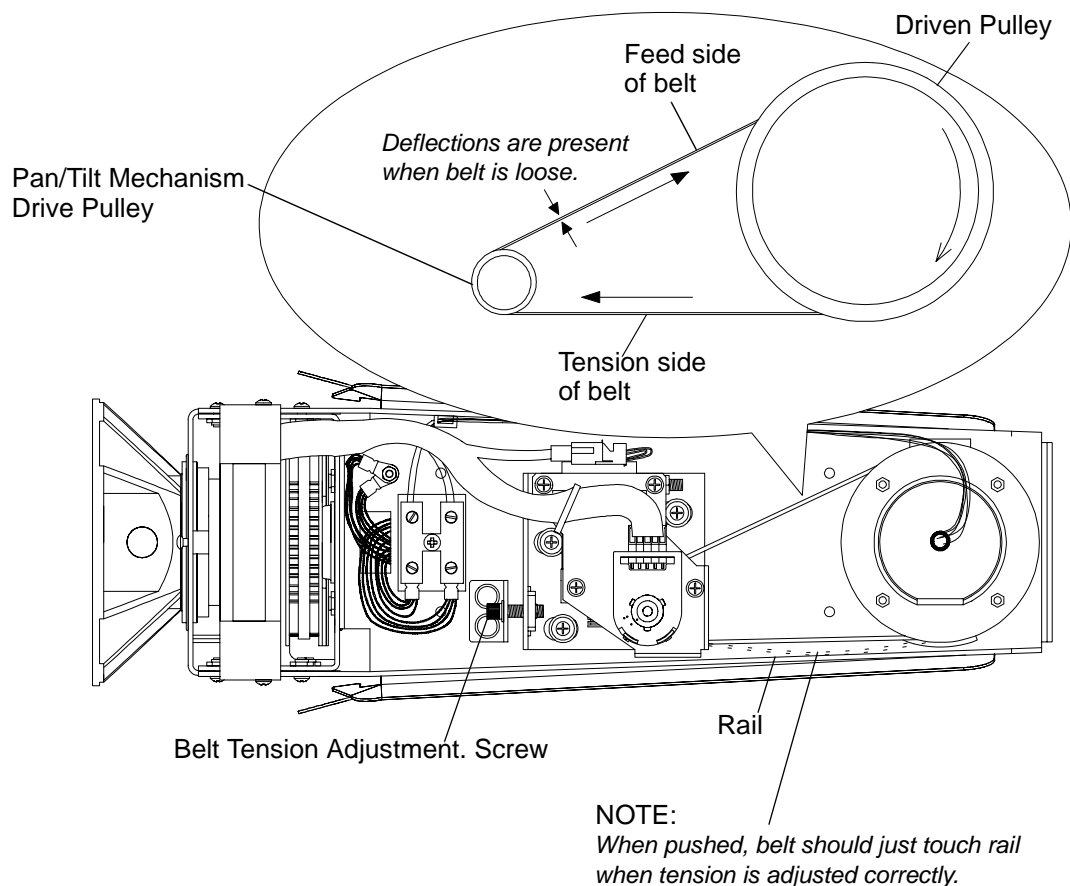

Figure 2-26: Belt Tension Adjustment
- Step 1. Pan or tilt luminaire head back and forth, noting the tension created on one side of belt and deflections on the other. **Figure 2-26.**